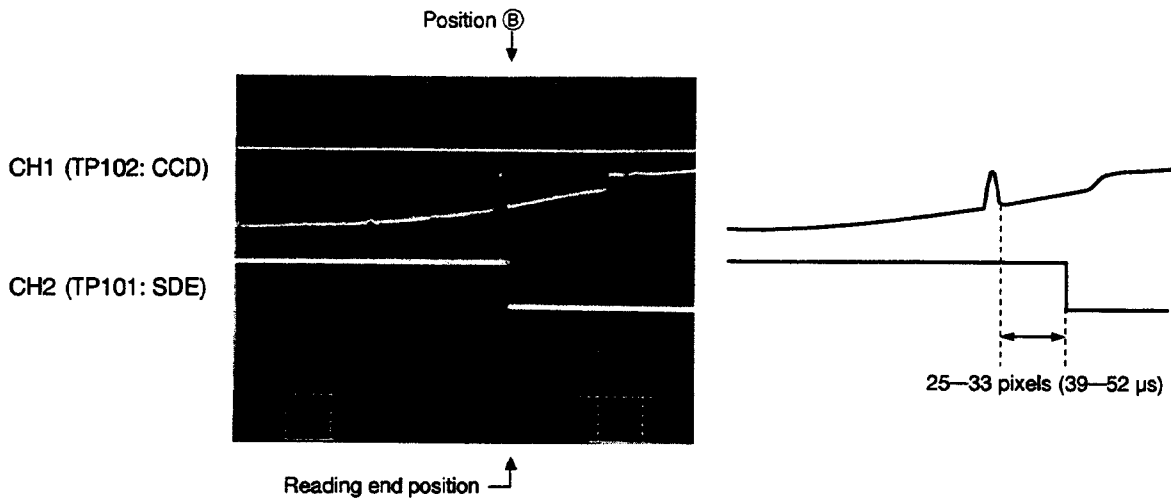

Fig. 6-12
2. By repeatedly pressing either the "Multi-Copy" or the "2-Screen" key, change the relationship between the last "bump" on the rising CCD signal and the falling edge of the "SDE" signal. After aligning these signals as shown in the left of Fig. 6-12 below, press the "Multi-Copy" key three times to shift the waveform as shown in the right of Fig. 6-12.